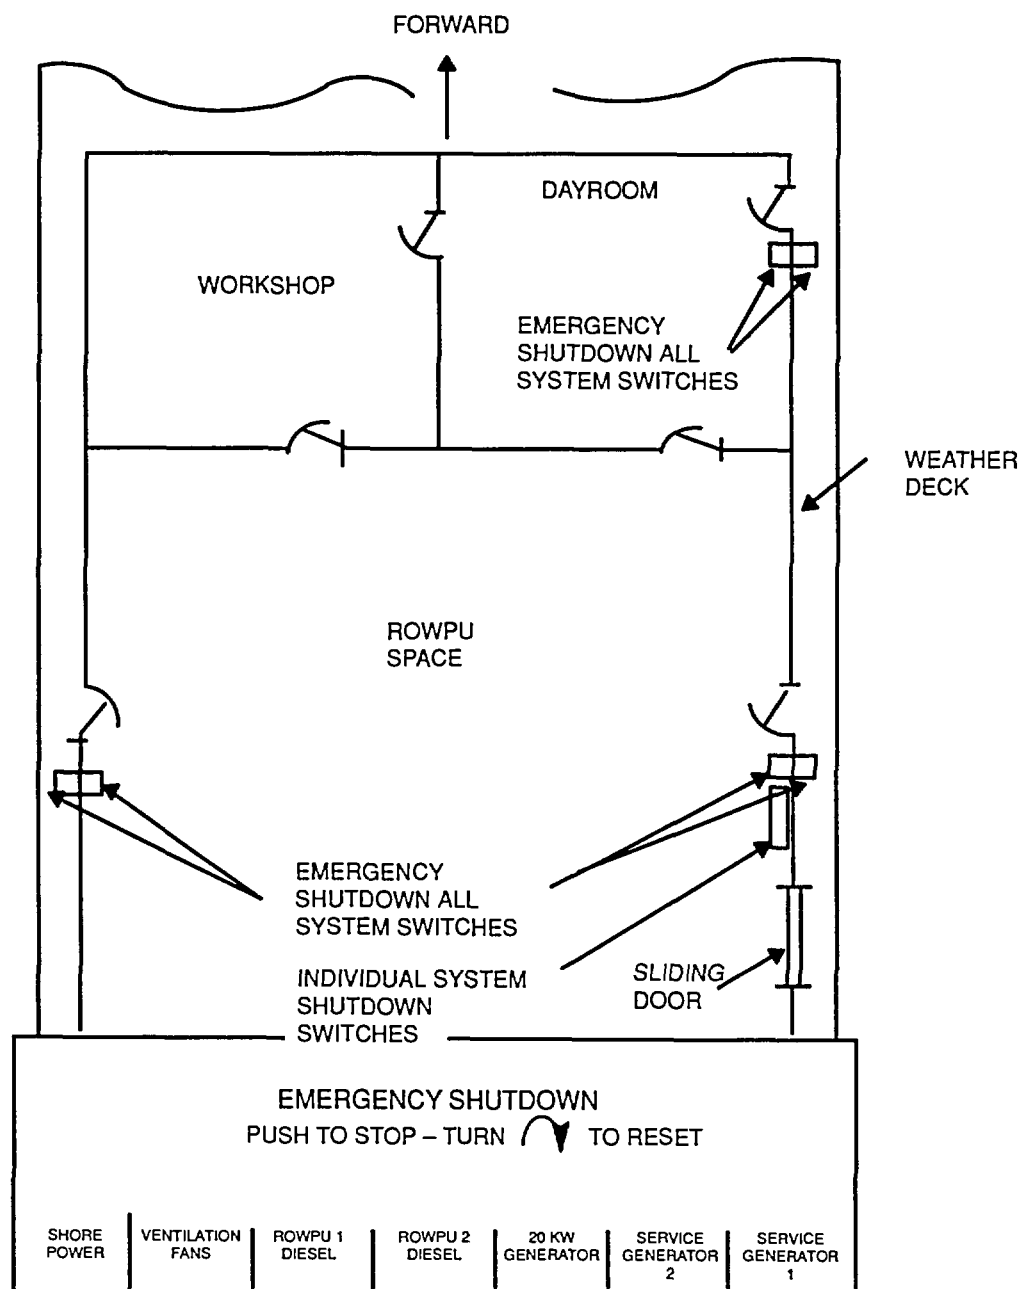

Figure 3-8. Location of Controls for Emergency Shutdown Systems
- f. Open air station valves 1 through 5 and 7 by turning counterclockwise until they stop (Figure 3-8). Leave the valve open.
Emergency system shutdown red buttons are on the ROWPU space starboard bulkhead just aft of the personnel door. These seven emergency system shutoff buttons (Figure 3-8) control shore power, ventilation systems, ROWPU 1 diesel HP pump, ROWPU 2 diesel HP pump, ship auxiliary generator, ship service generator 1, and ship service generator 2.